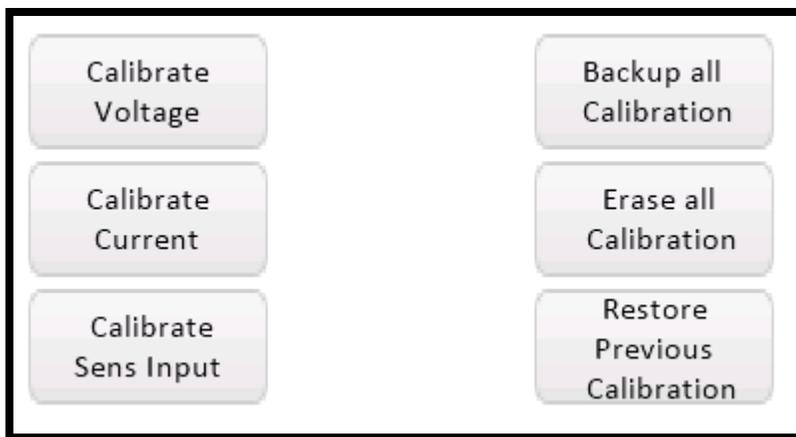

Figure 23. MAXREFDES183# Calibrate Voltage screen.
32. Calibrate Voltage: Click the **Calibrate Voltage** button (**Figure 23**).